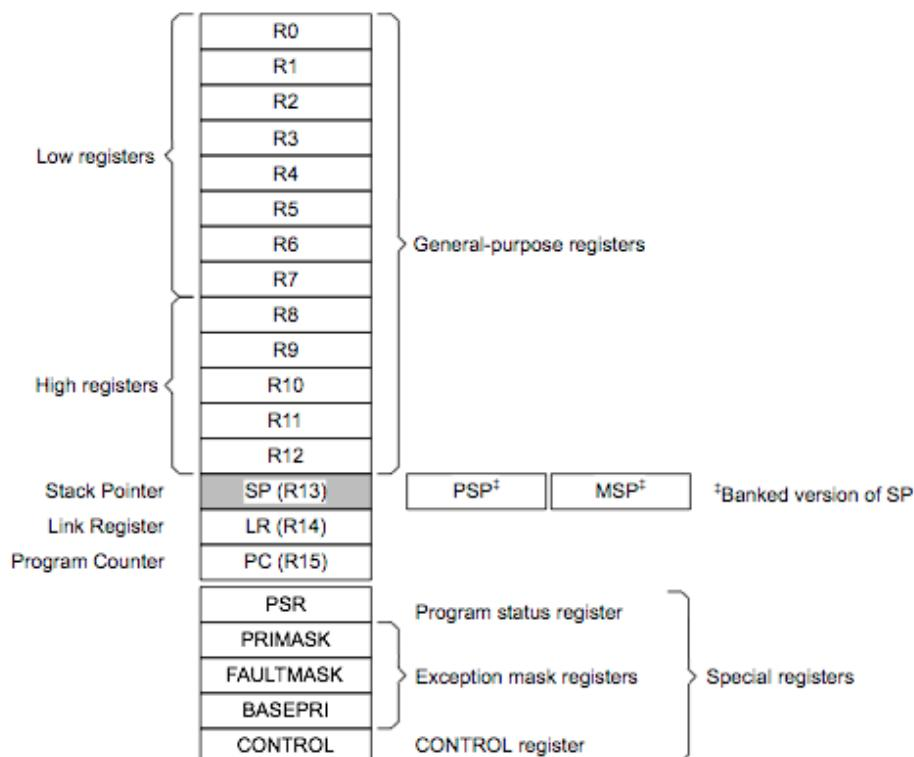

Figure 3.2 Registers in Cortex-M3
- The Cortex-M3 has 18 registers in total compared to 37 registers for traditional ARM. Figure 3.2 shows the registers.